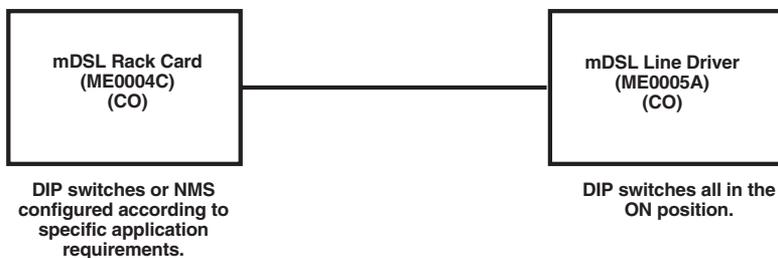

Figure 3-3. Typical plug-and-play application.
1. Set the mDSL Rack Card (CO) to either internal or external clocking mode as defined by the application.
2. Set the mDSL Line Driver (CP) to “Plug-and-Play CP” by setting S1 and S2 DIP switches in the ON position as described in Figure 3-3.